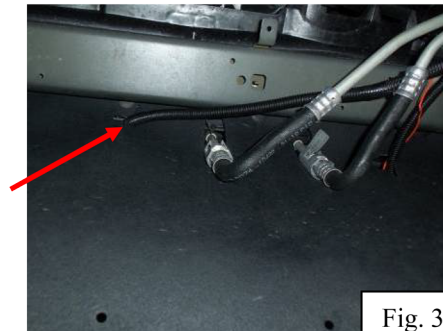
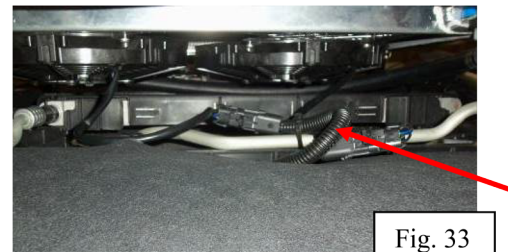

Fig. 32
Fig. 33
- Route the fan leads through the center hole in the rubber air deflector (Fig. 32). Connect the weatherpack plugs from the harness to the ones on the fans. The order does not matter. Zip tie the wires out of the way (Fig. 33).